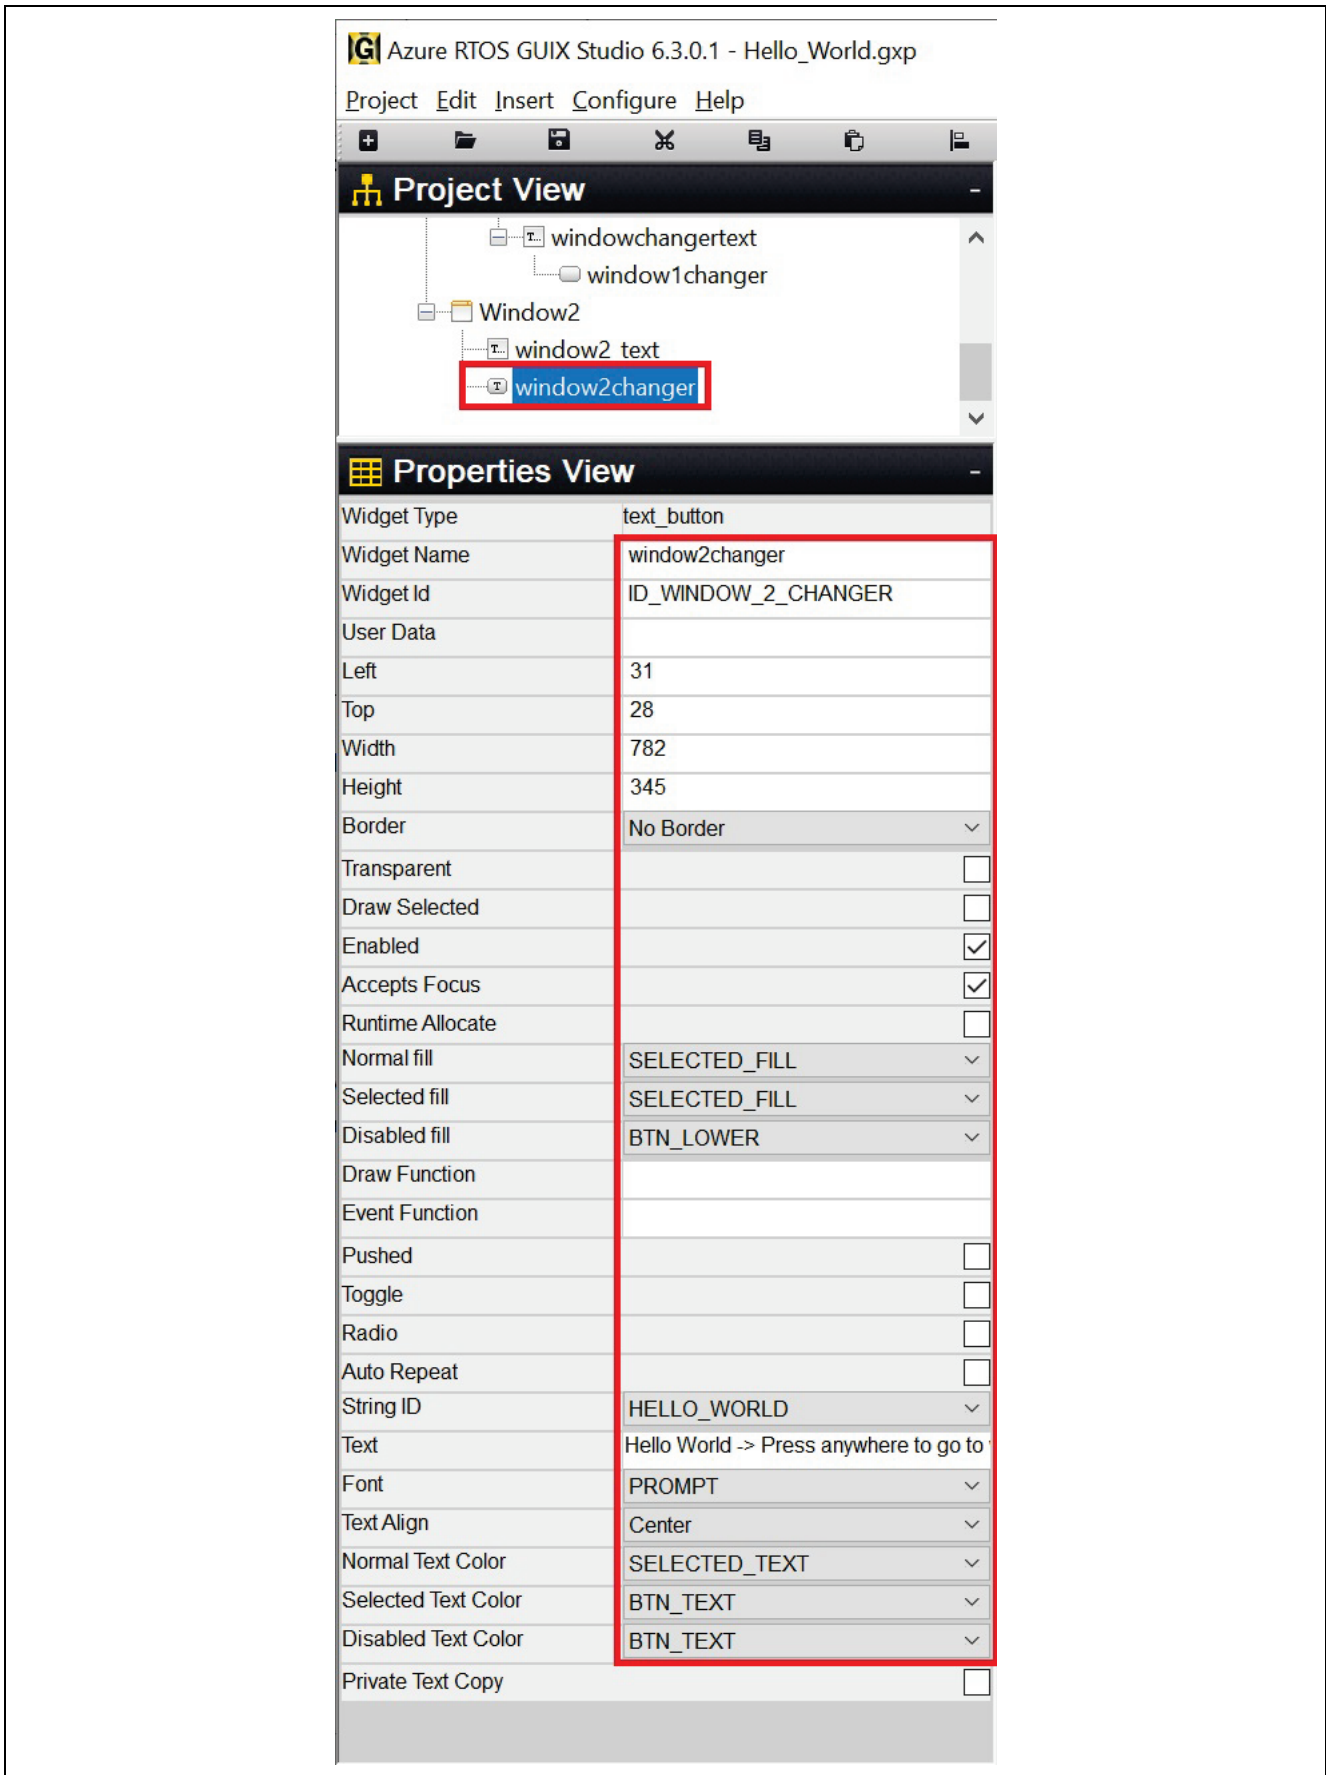

Figure 68. Setting Properties of text\_button
28. Set the **Properties View** of **text\_button** as shown in **Figure 68**.